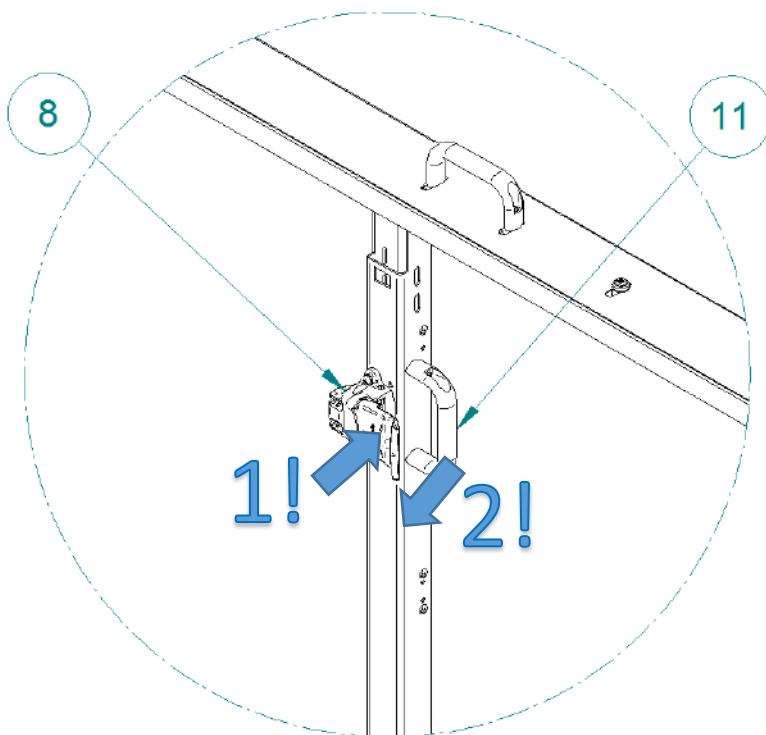

Fig. 20. Locking mechanism release lever and one-handed operation.
Note: The hatch cannot be closed without releasing the locking mechanism (with a lever (8), Fig. 20).
2. To close the hatch, **SIMULTANEOUSLY** press the release lever (8) and pull the internal handle (11) (Fig. 19). The lever can be pressed and the handle can be pulled using one hand (Fig. 20).